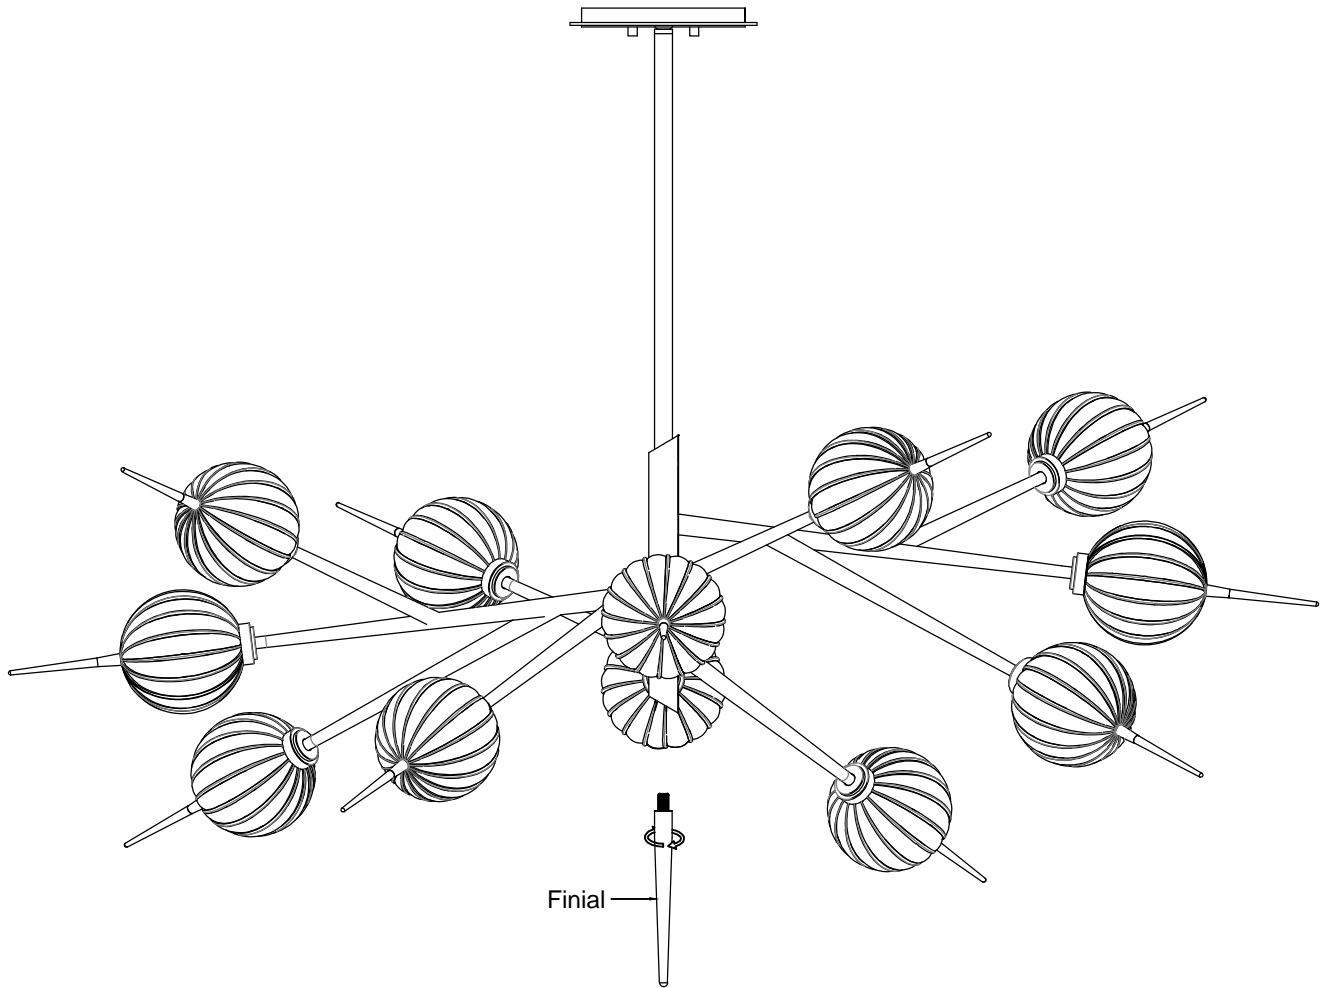

FIGURE-04
11. Attach the finial to the bottom of the fixture. (See Figure-04)